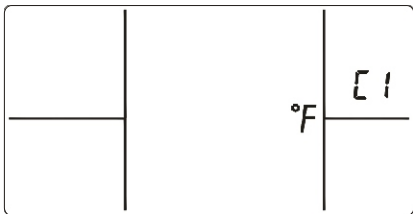
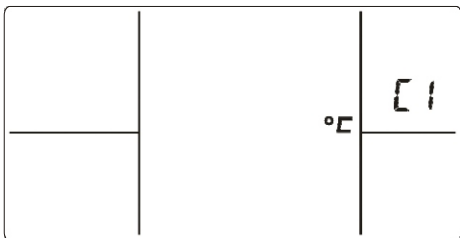

Fig.3 C1 (displays in Fahrenheit)
Fig.4 C1 (displays in Celsius)
- ① Press and hold the SET button for 5s to enter menu setting, C1 will display as shown in Fig.3 & Fig.4. This time, you can select the temperature scale by pressing the decreasing - or increasing + button.